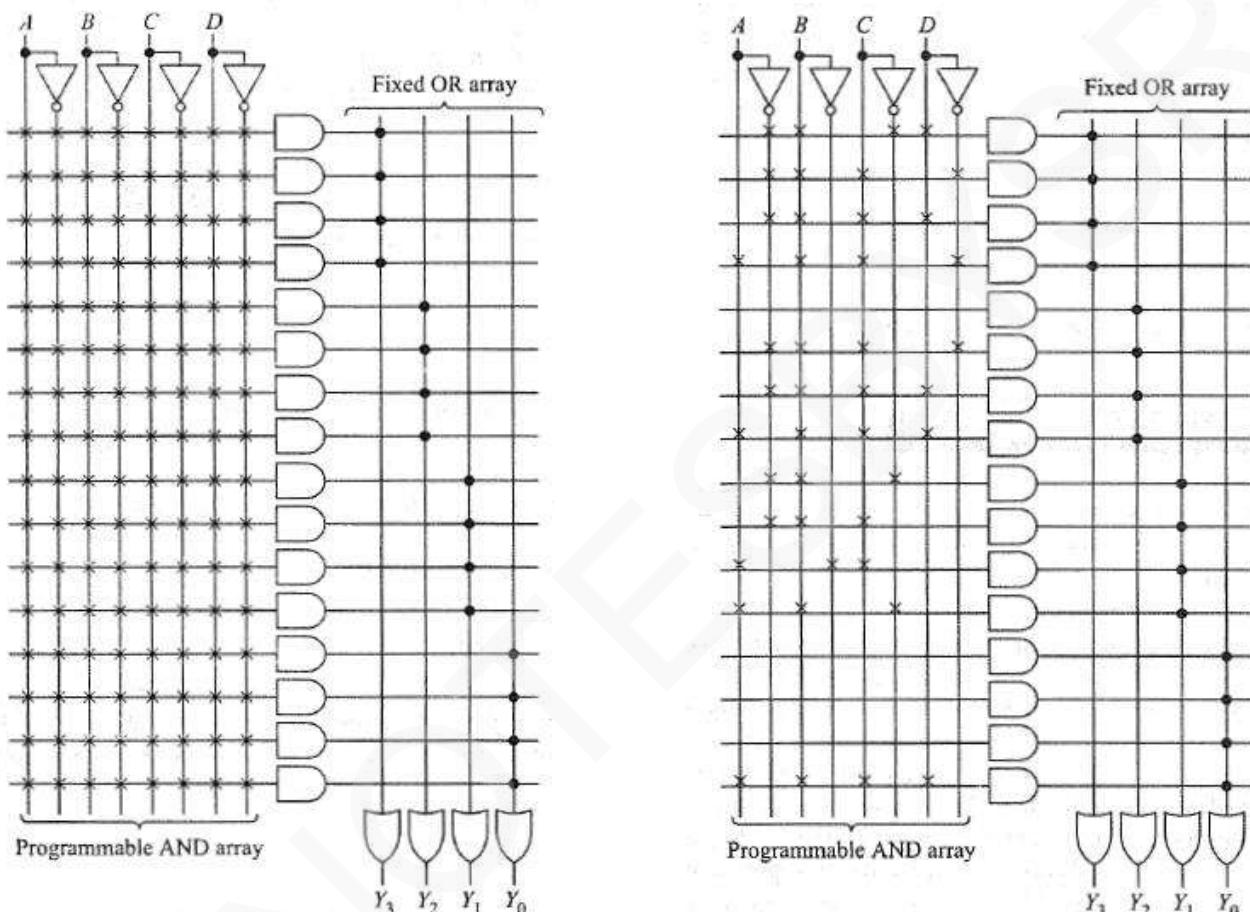

Figure 4.43: Structure of PAL
- As shown in Figure 4.43, there 2 types of links: 1) Fusible links & 2) Fixed links.